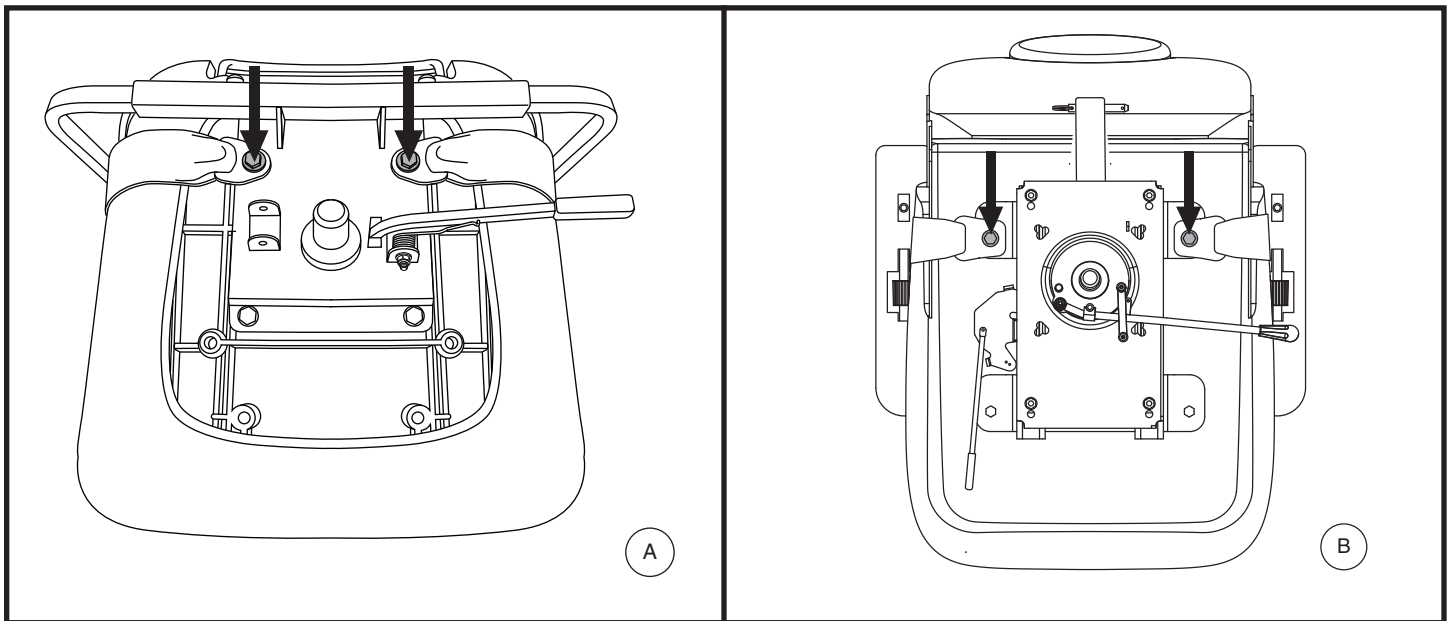

Figure 23. Positioning Belt Bolts
Your scooter seat may be equipped with a positioning belt that can be adjusted for operator comfort. **See figure 23.** The positioning belt is designed to help support the operator so that he or she does not slide down or forward in the seat. The positioning belt is not designed for use as a restraining device.
2. Place the seat upside down so that you can see the bottom of the seat base. **See figure 23.**